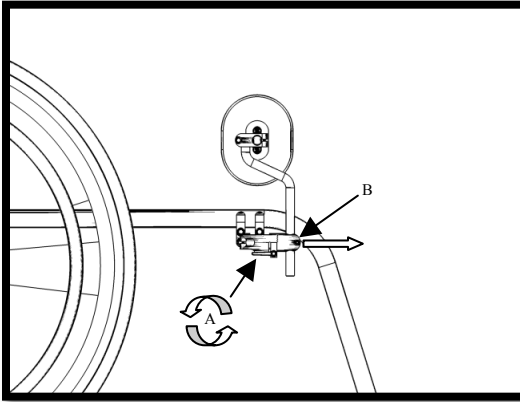
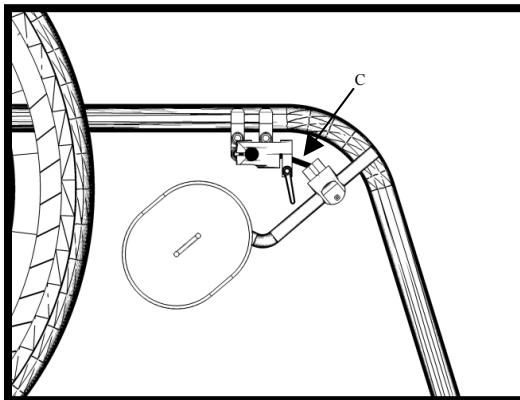

Figure 1.10
Figure 1.11
See Figure 1.10, to release and swing/rotate adductor pad out of the way; turn the release knob (A) counter-clockwise one revolution to free the rotation clamp (B) on the swing-away device. Pull the clamp out and move pad aside. Figure 1.11 shows a release clamp with the pad moved aside. The pad and post assembly will still be connected to the main body of the coupling by the pivot bar (see Figure 1.11, note C). The pivot bar allows the user to move the pad assembly completely off to the side during transfers and navigate around any other devices attached to the chair in the adjacent area. To re-secure the pad-post assembly, insert the rotation clamp back into the fixed clamp's housing. A locating pin is pressed into the fixed clamp housing to ensure the adductor pad-post assembly is re-positioned back into its original placement. Turn the release knob (A) clockwise to secure (after resistance is felt, one-half turn is all that's required to firmly secure the rotation clamp).